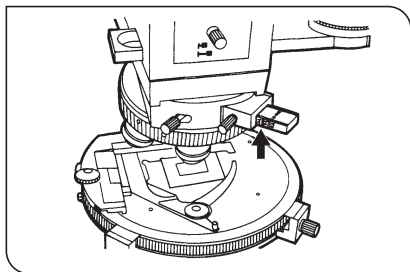

Fig. 4
2. At this point, note the value indication on the side of the U-CWE2 seen at the edge of the adapter. This reading shows the approximate range of the retardation at the measuring point. (Arrow indicated position Fig. 4)